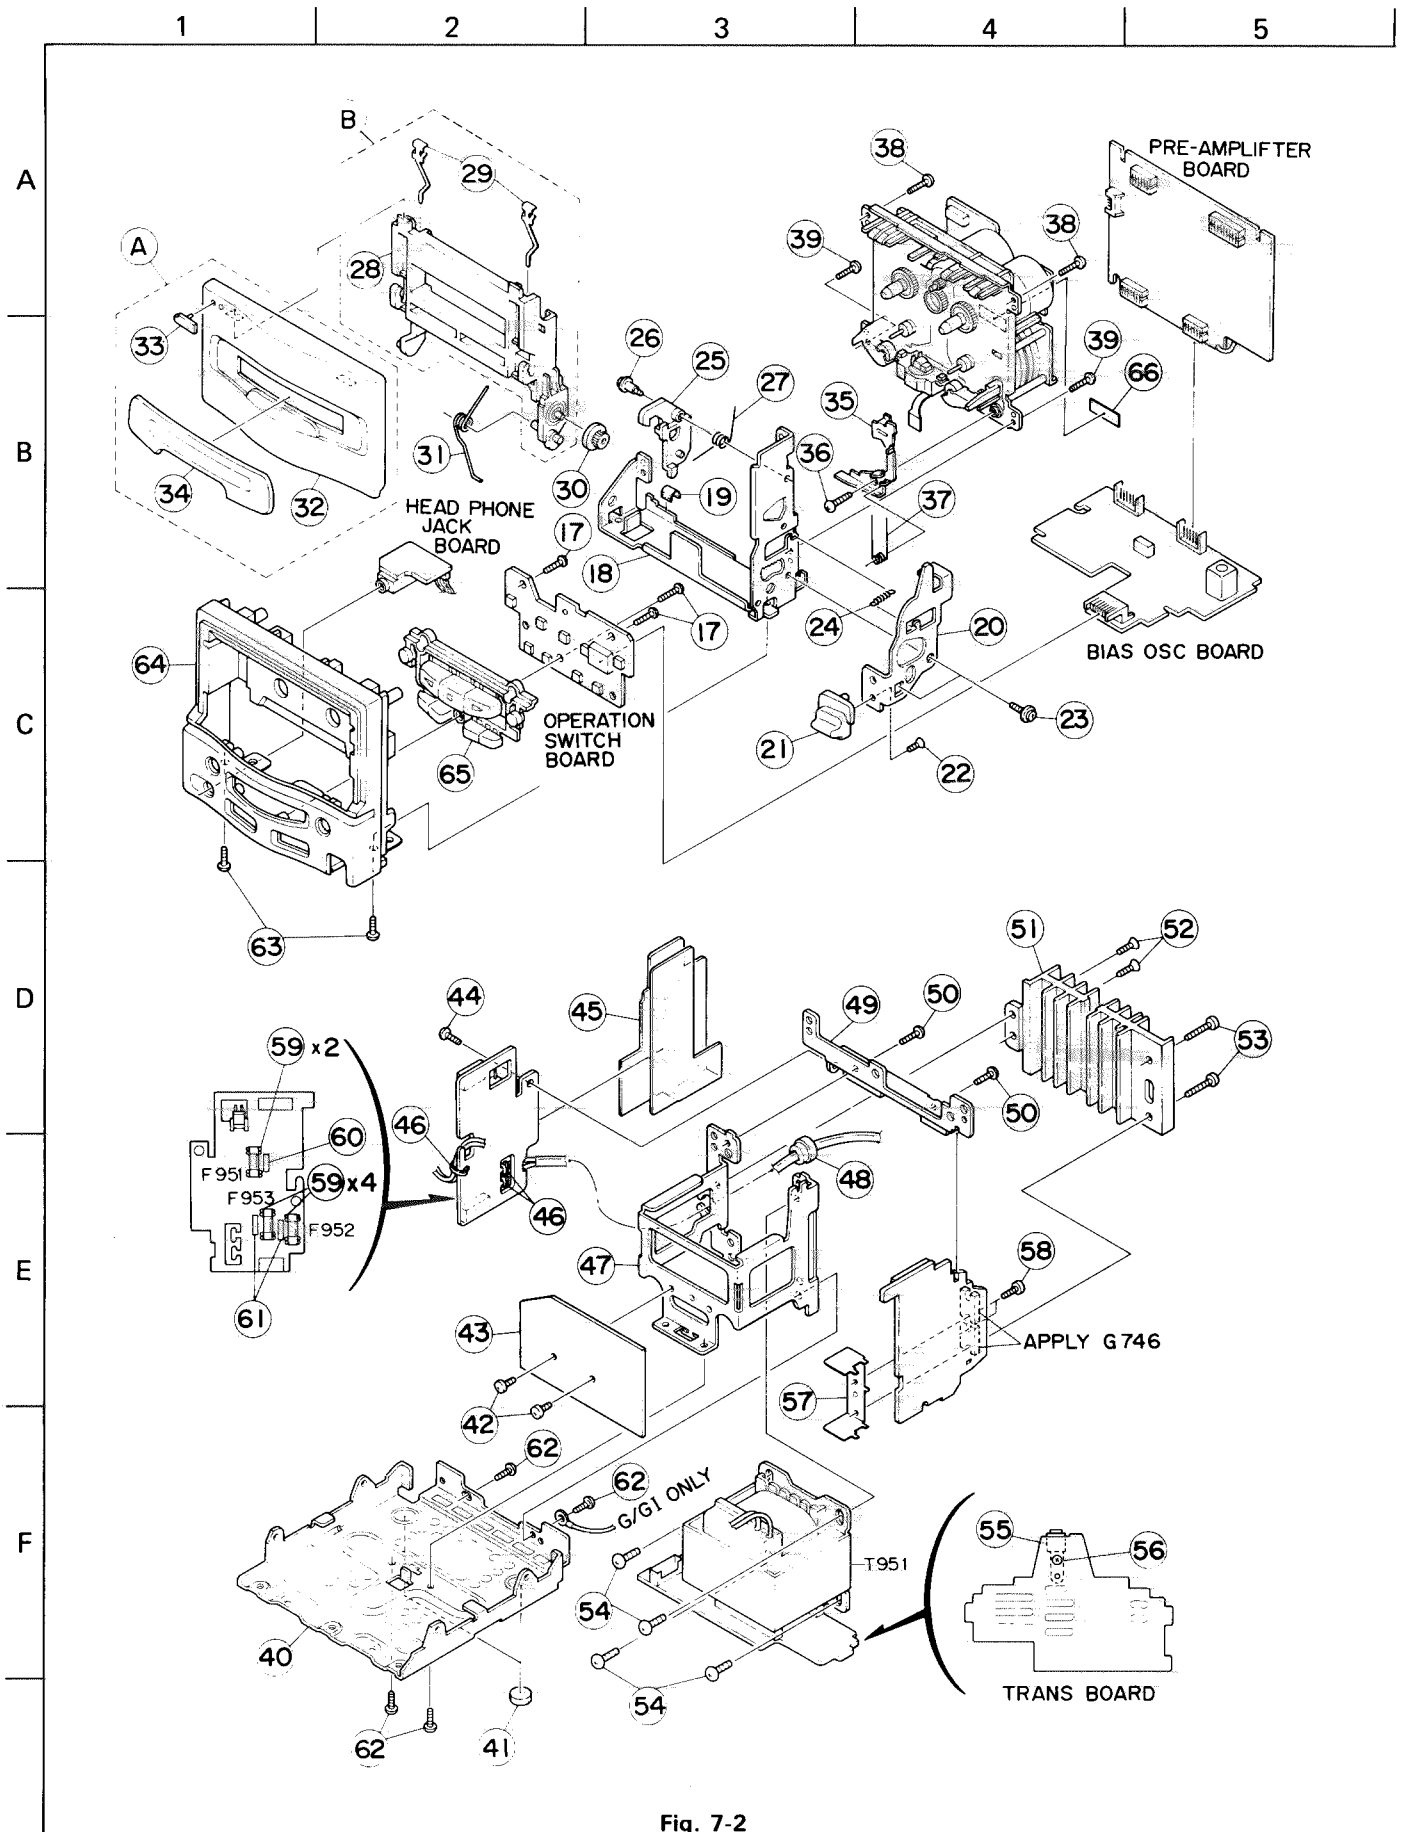

Fig. 7-2
- **Cassette Mechanism** (Fig. 7-2, 3)
- **Headphone Jack P.C. Board** (Fig. 7-2, 3)
#### • Operation Key Switch P.C. Board and Front Panel (Fig. 7-2, 4)
##### • Power Supply Transformer (Fig. 7-2, 5~7)